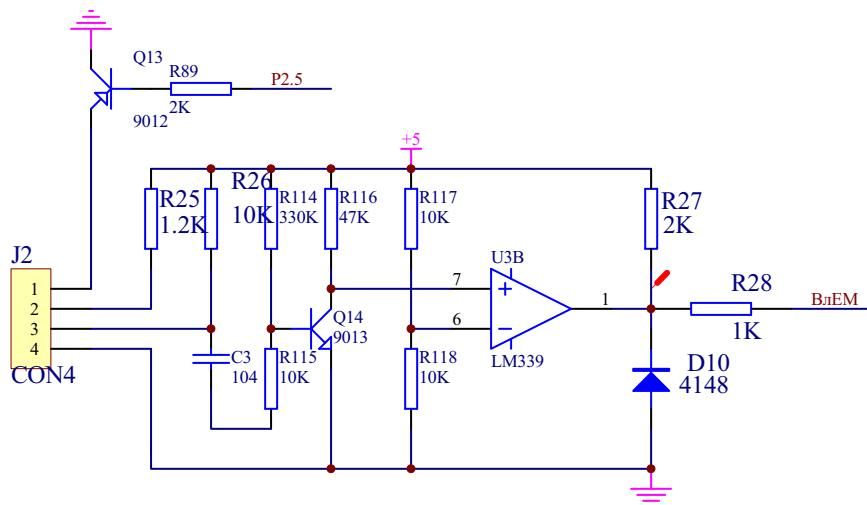

Fig.18B The circuit diagram of width sensor
### (2) NEW PRO85, PRO85U (Fig.18B)